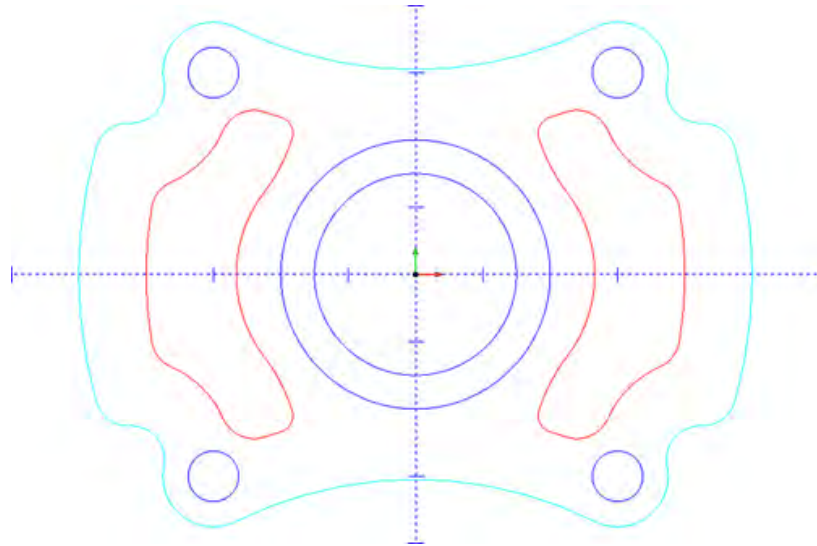

figure 5.1
5. Now holding down the Shift key on your keyboard click on the two green pockets inside of the part. Each of these loops should highlight showing that they have been selected (figure 5.1). Once these are selected, right click anywhere in the workspace and click **OK**. The geometry has now been associated with this feature.